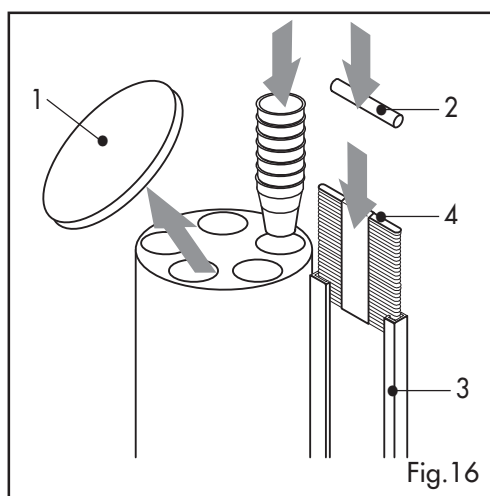

Fig.16
- Remove the cover ref. 1 (Fig. 16) and fill the tubes with plastic cups.
- Remove the weight ref. 2 (Fig. 16).
- Fill stir stick dispenser ref. 3 (Fig. 16) and replace the weight.